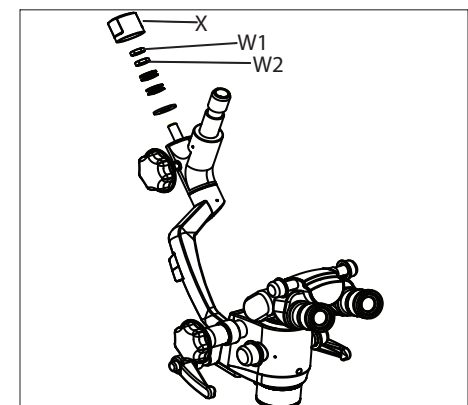

Fig. 46a
- Spring loaded counter Balancing mechanism is provided to adjust force on clockwise/anticlockwise rotation of carrier Arm to take care of extra loads of accessories. (if Provided) at the time of installation Refer Fig.46a.